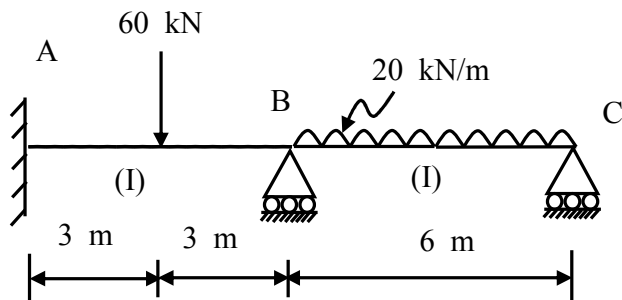

Fig.1 Q.3
- Q-3 Analyse the beam shown in fig.1 using stiffness member approach and plot SF & BM diagrams. In addition to loading consider effect due to sinking of support at B by 5 mm. 14